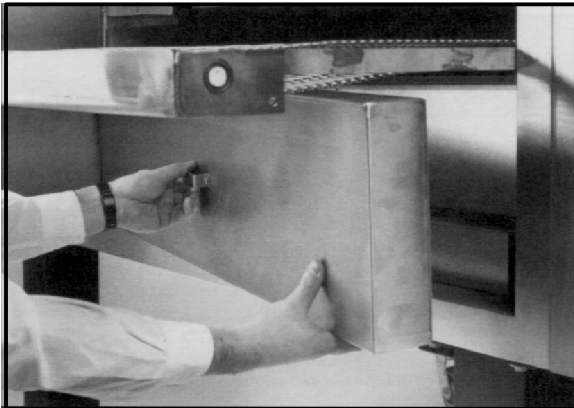

Figure 10
2. Install the lower end plugs on both ends of the oven. See Figure 10.